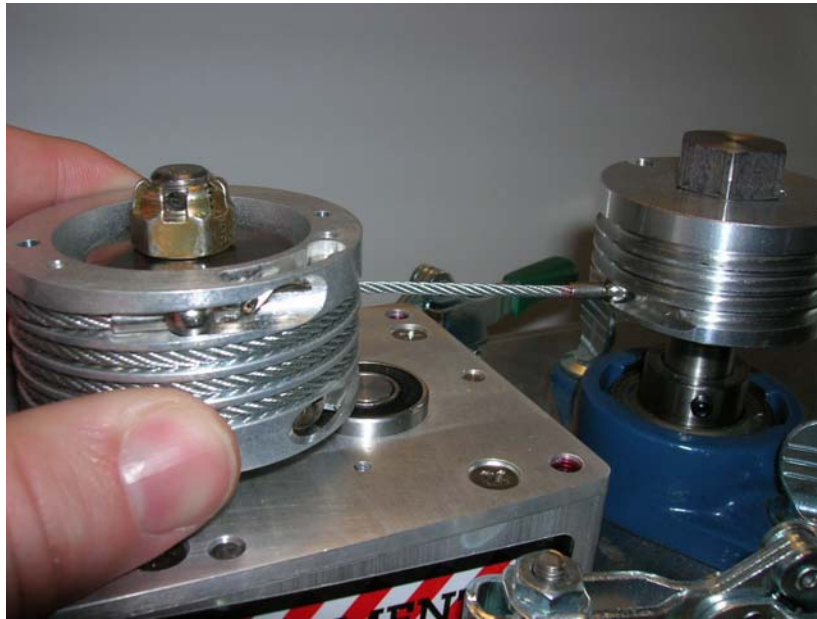

Figure 3-12. Cable inserted in bottom slot of fixture capstan
- 3) Secure the swaged ball end in the bottom slot of the test fixture capstan. See Figure 3-12. If necessary, turn off the test fixture solenoid and turn the unit capstan to take up most of the slack in the cable. Turn the solenoid on again to keep the cable from unwinding.